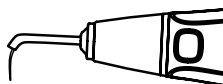

Figure 8 Installation of
4. Install the Work Work Tip Protector to the Work Tip as shown in Figure 8, to prevent scalding patient's mouth during operation.